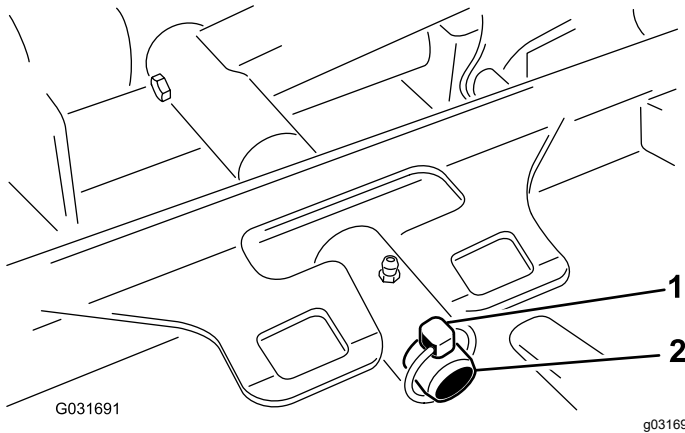

Figure 13
3. Remove the lynch pin securing the deck-carrier frame to the lift-arm pivot pin (Figure 13).